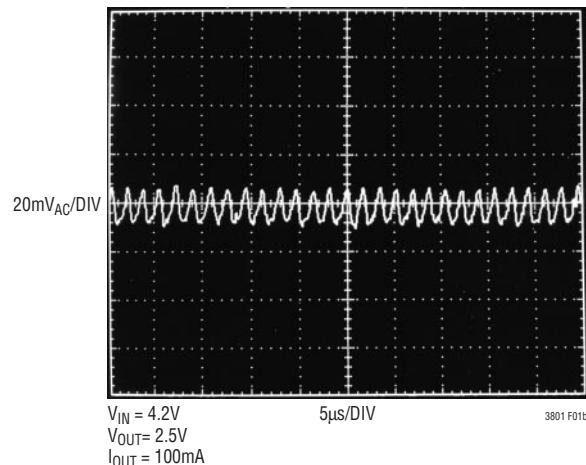
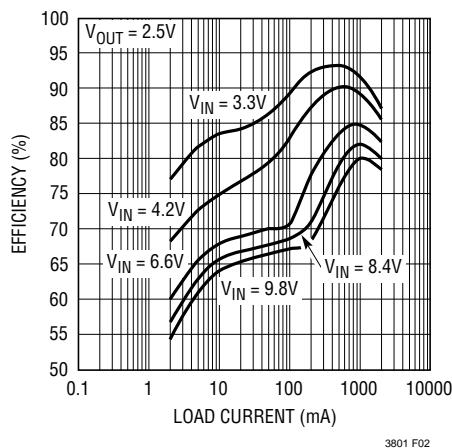

Figure 1. Output Ripple Waveforms for the Front Page Circuit
Figure 2. LTC3801B Efficiency vs Load Current
**Note 6:** Peak current sense voltage is reduced dependent on duty cycle as given in Figure 1.
Figure 1 illustrates this result for the circuit on the front page of this data sheet using both an LTC3801 (in Burst Mode operation) and an LTC3801B (with Burst Mode operation disabled). At an output current of 100mA, the LTC3801 exhibits an output ripple of 81.6mVP-P, whereas the LTC3801B has an output ripple of only 17.6mVP-P. At lower output current levels, the improvement is even greater. This comes at a tradeoff of lower efficiency for the non Burst Mode part at light load currents (see Figure 2). Also notice the constant frequency operation of the LTC3801B, even at 5% of maximum output current.